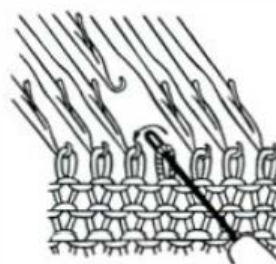

Fig. 31
- d. Raise the transfer tool with the stitch on it and transfer it to the adjacent needle, right or left as desired. (See Fig. 31)